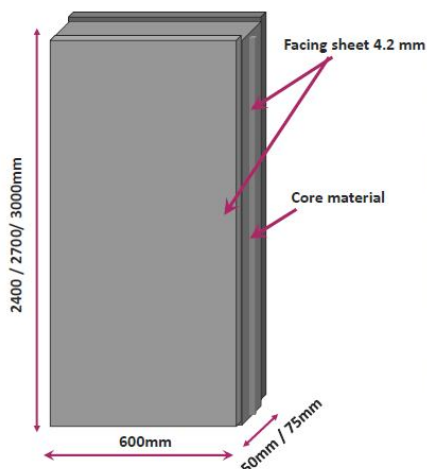

Fig. 1 Dimension of Panel
Prefab fibre reinforced sandwich panels, made of two fibre reinforced cement facing sheets, on either sides of a lightweight concrete core. The core is made from a mix of portland cement, binders and siliceous & micaceous material aggregate. These panels have a unique tongue and groove jointing system that facilitates rapid construction and are fully cured at the factory itself. These panels are manufactured by using Flexo Board (FOB)/ Fibre Cement Board (NT). Details of these panels are shown in Figs.1, 2 & 3. The panels are available in size of 2400mm.2700mm,3000mm (H) x 600mm(W) x 75mm thk. [2]